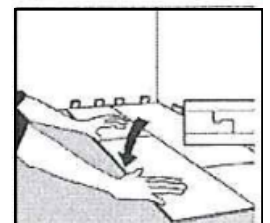

Figure 4
3. Carefully push the board down until the tongue and groove lock together on the side and ends. **(Figure 4)**